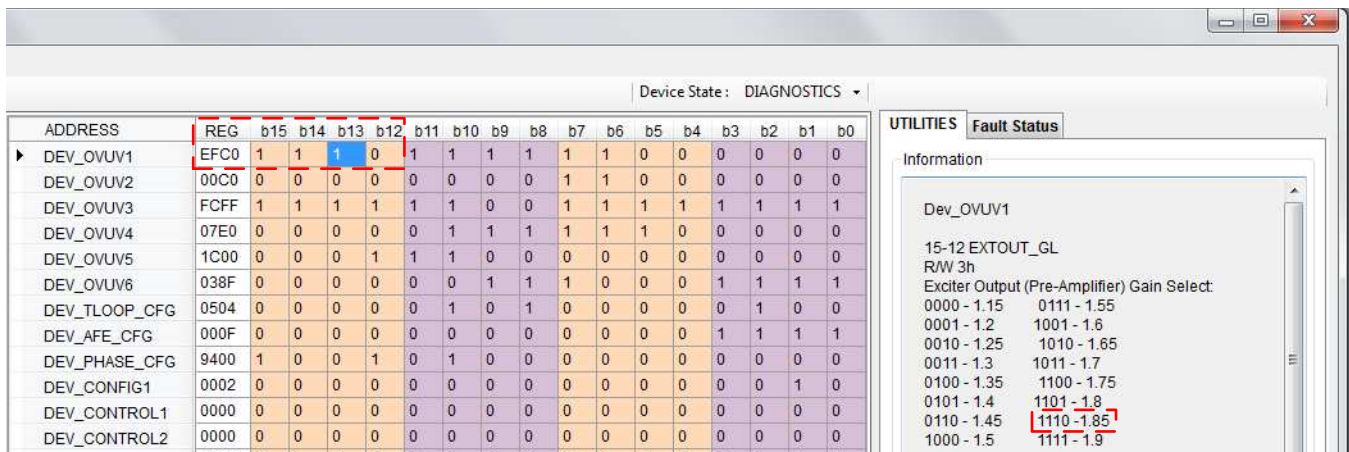

Figure 20. Exciter Amplifier Gain Change Using Memory Map
- Step 6. Click the b14 and b13 bits to change the value inside the cell. To change the exciter preamplifier gain from 1.5 V/V to 1.85 V/V, update the value of bits b15 through b12 to 1110 and write this register to the PGA411-Q1 device using the *Write Selected* button as explained in Section 2.3.4.1. New bit values appear as shown in Figure 20.